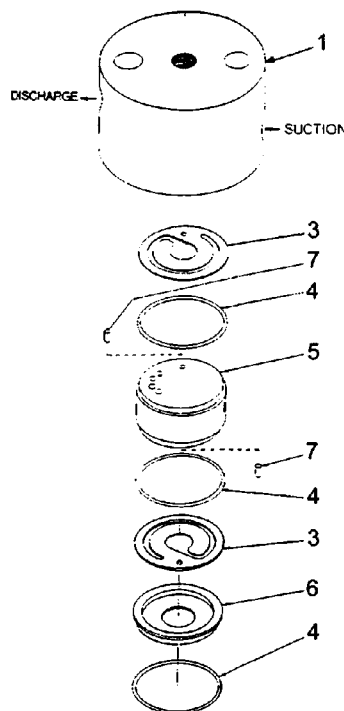

Figure 3. 2nd Stage Valve Assembly.
Legend For Figure 3
- d. Remove the O-ring (4), valve stop (6), suction valve (3), locating pin (7), and second O-ring (4). Discard the O-rings. Refer to Figure 3.
- e. Remove the valve seat (5) from the cylinder head (1). Removal can be assisted by removing the plug in the head and using an object, such as a bolt with a blunt end, and putting it through the discharge port in the top of the head, then tapping lightly on the seat. Care must be taken not to damage the valve seat. Refer to Figure 3.
- f. Remove the O-ring (4), discharge reed valve (3) and the second locating pin (7). Discard the O-ring. Refer to Figure 3.
- a. Apply a light film of oxygen compatible O-ring grease to the new O-rings (4) (PCI P/N 582380-001, see WP 003 00, Table 2). Refer to Figure 3.
- b. Set the discharge valve (3) over the pin (7) in the head and place the first new O-ring (4) in the valve (5) pocket. Refer to Figure 3 for proper orientation of the valve.
- c. Insert valve seat (5) into head (1) with the pin hole in the discharge side of the seat aligned with the pin in the head. Look through the suction port in the head to check that the locating pin (7) has engaged the hole in the seat and the seat is inserted all the way to the bottom of the head. Be sure valve seat is not inverted. Refer to Figure 3.
- d. Install the O-ring (4) and new pin (7) on the suction side of valve seat (5). Install the suction valve (3), referring to Figure 3 for proper orientation.
- e. Install the valve stop (6) in the head (1) and the O-ring (4) on the valve stop.